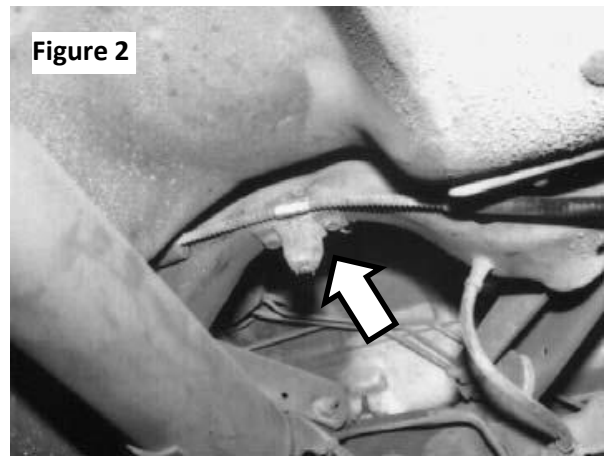

**Figure 1**
5. With a floor jack under the differential, lift up slightly to remove tension from the trailing arm bolts – Make sure not to lift the car off the jack stands. (**Figure 1**) The trailing arm bolts provided in the kit are longer than the OE bolts and must be used with the frame braces.